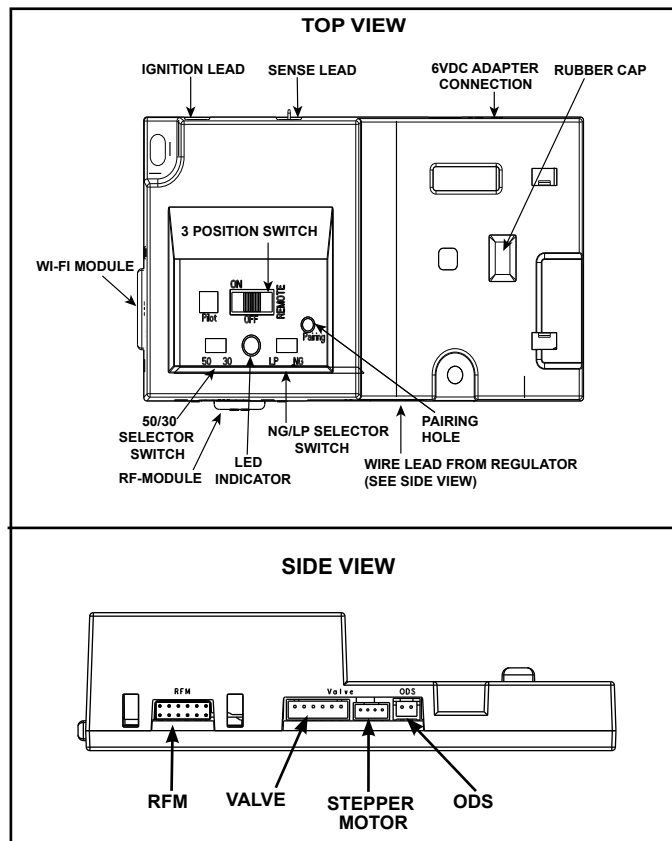

Figure 8.5 IFT-ECM 2.0
1. The Electronic Control Module (IFT2-ECM) has a three-position ON/OFF/REMOTE selector switch that must be set for proper operation. See Figure 8.5. When changing switch positions, it is important to pause in each position for 1-2 seconds.